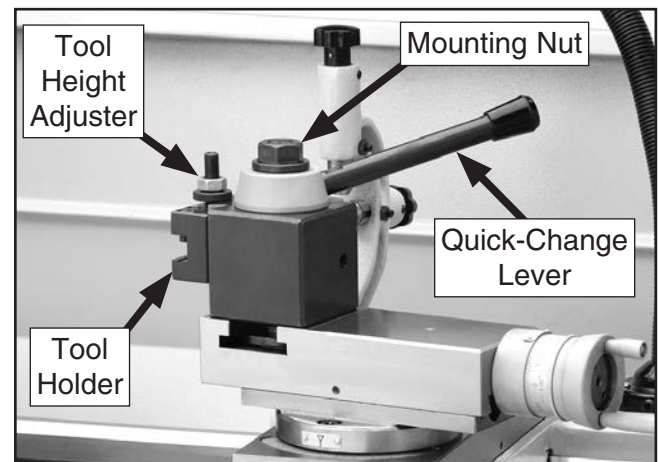

Figure 45. Tool post bolts.
2. Move the quick-change lever (see **Figure 45**) to recess the lock piston and provide an unobstructed slot for the tool holder to slide down into.